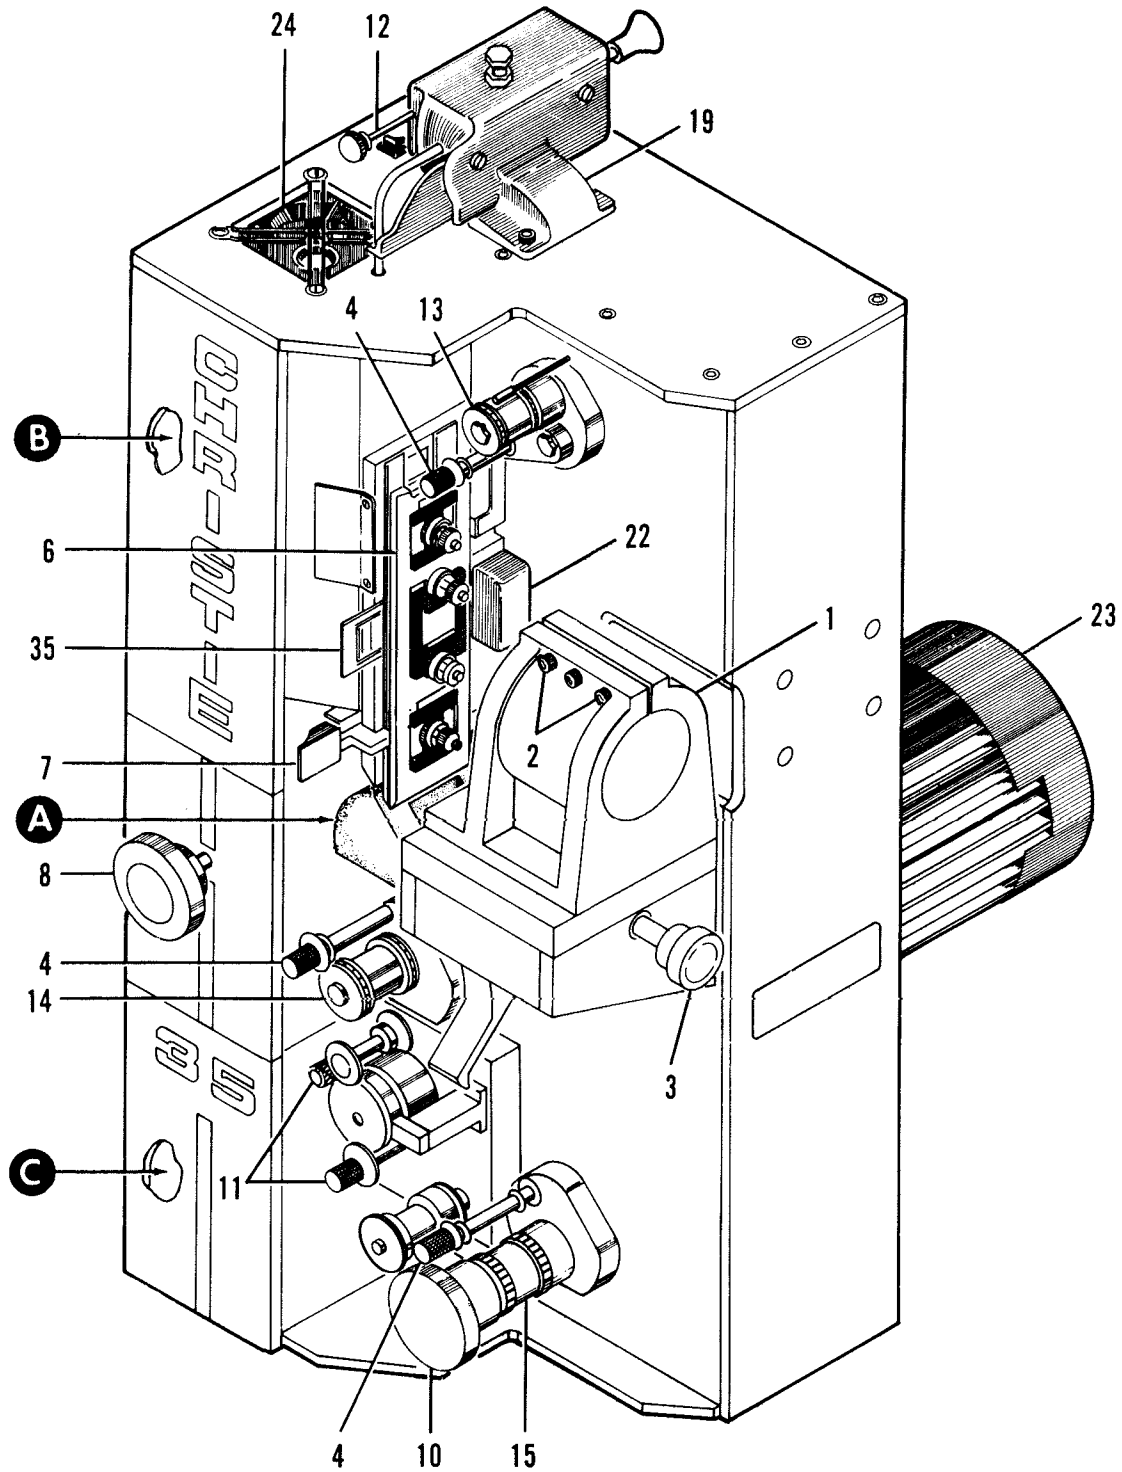

FIGURE 3-1. PROJECTOR PARTS LOCATION
7. Refer to Figure 3-1. Install lens system in lens holder (1). If it is necessary to open the lens holder more than normal, a spreader screw is available in the hardware kit for this. Refer to Figure 3-1 (25).
8. Secure lens with allen head screws (2) located on top side of holder.
9. Set focus knob (3) at its mid position (see alignment marks on lens holder for centering). Focus lens by sliding within lens holder until in focus. Then tighten allen head screws (2).
10. Remove single lens holder (1) (if furnished) by releasing single lens locking lever (28), then lift out lens holder.
To operate the projector, refer to Figures 3-1 and 3-2 and proceed as follows:
4-6. Removal of Trap and Gate Assembly. (6, Figure 3-1)
4-9. Removal of Upper/Center/Lower Constant Speed Sprocket Assembly. (Figure 3-1)
2. Remove three allen head screws securing constant speed sprocket assembly to main frame, then remove constant speed sprocket assembly (13, Figure 3-1).
If removal of solar cell assembly (36, Figure 3-1) is required, disconnect wiring at terminal block TB-3, remove screws (37, Figure 3-1) and remove solar cell assembly. To remove the sound head assembly, proceed as follows:
4-12. Removal of Electric Changeover Assembly. (19, Figure 3-1)